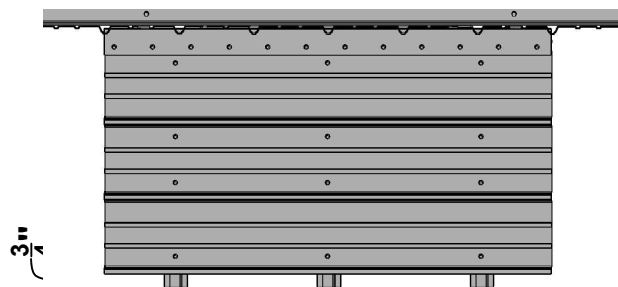

FIGURE 14
1. Place the Roof Sheet back on the Hat Purlins. Slide the sheet toward the wall panel allowing $\frac{3}{4}$ " from the end of the Hat Purlins per **Figure 14**. Align the bottom of the panel with the end of the Transition Flashing. Square panel with canopy framing. Attach Roof Panel to lowest Hat Purlin with Structural Screws per **Figure 14**.